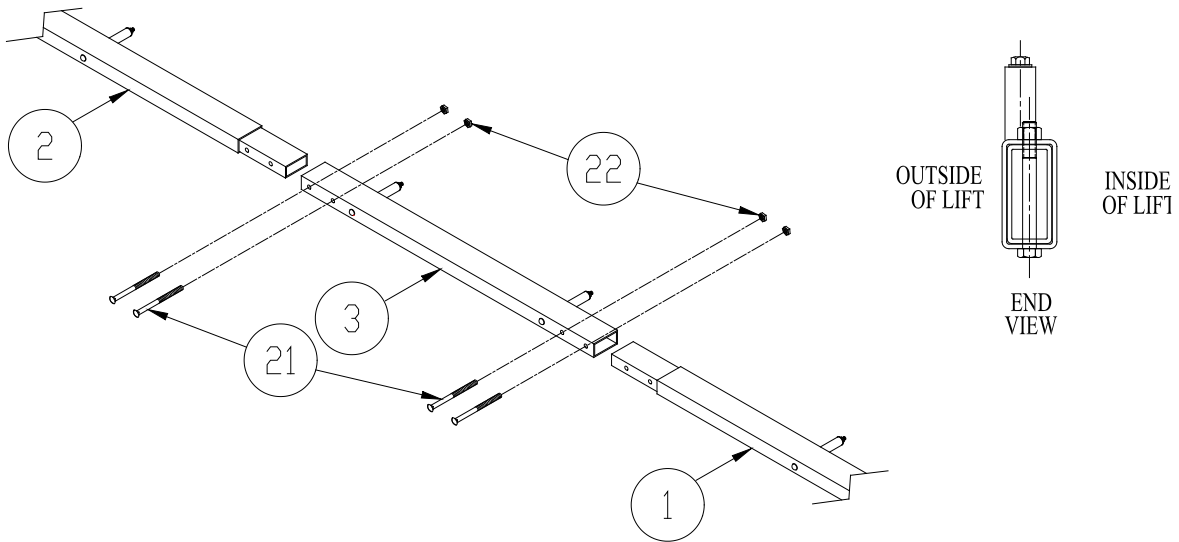

Figure 2-2
4. Refer to **Figure 2-2**. Assemble (2) sides of your canopy frame on the ground using (1) left hand, right hand and center stringer for each side assembly. Fasten each joint together with (2) three hole plates and hardware shown. Each stringer assembly **MUST** be straight for proper fabric fitting.